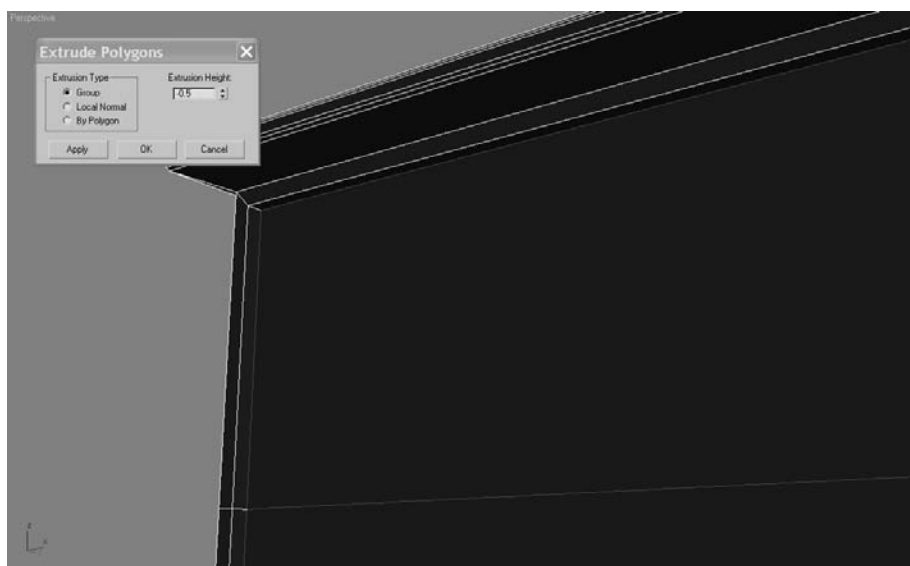

Figure 4.62
2. Go to the Edit Polygons rollout in the Modify panel, and click the Inset Settings button. Set the Inset Amount to **0.6** and keep the Inset Type to **Group**, as shown here. Click **OK**. Figure 4.62 shows the result of the Inset operation.